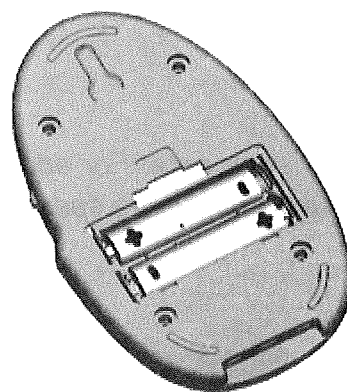

Figure 1
1. Open the battery compartment cover and insert two AAA size batteries (included). Make sure the batteries are installed correctly (see figure 1).